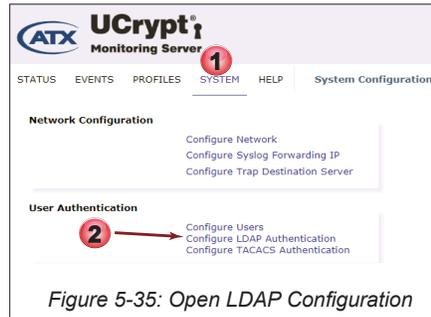

Figure 5-35: Open LDAP Configuration
1. Click the **System** tab if it is not already selected, Figure 5-35.